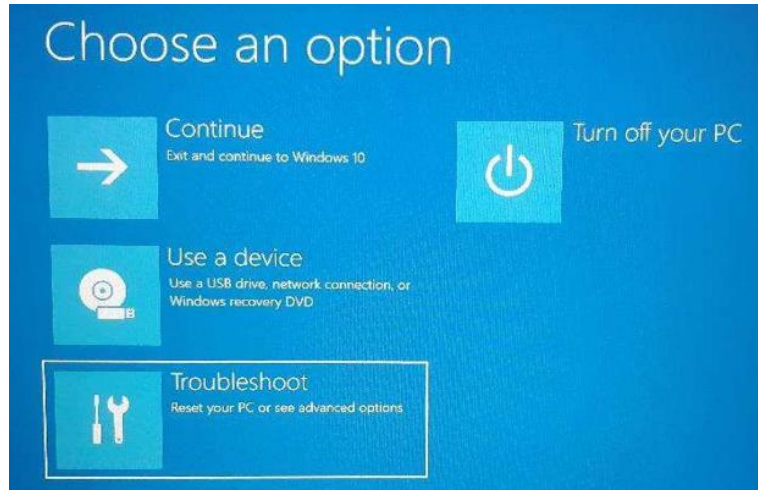

Figure 3.19. Troubleshoot Option
3. When the Choose an option screen appears as shown in Figure 3.19, release the Shift key.